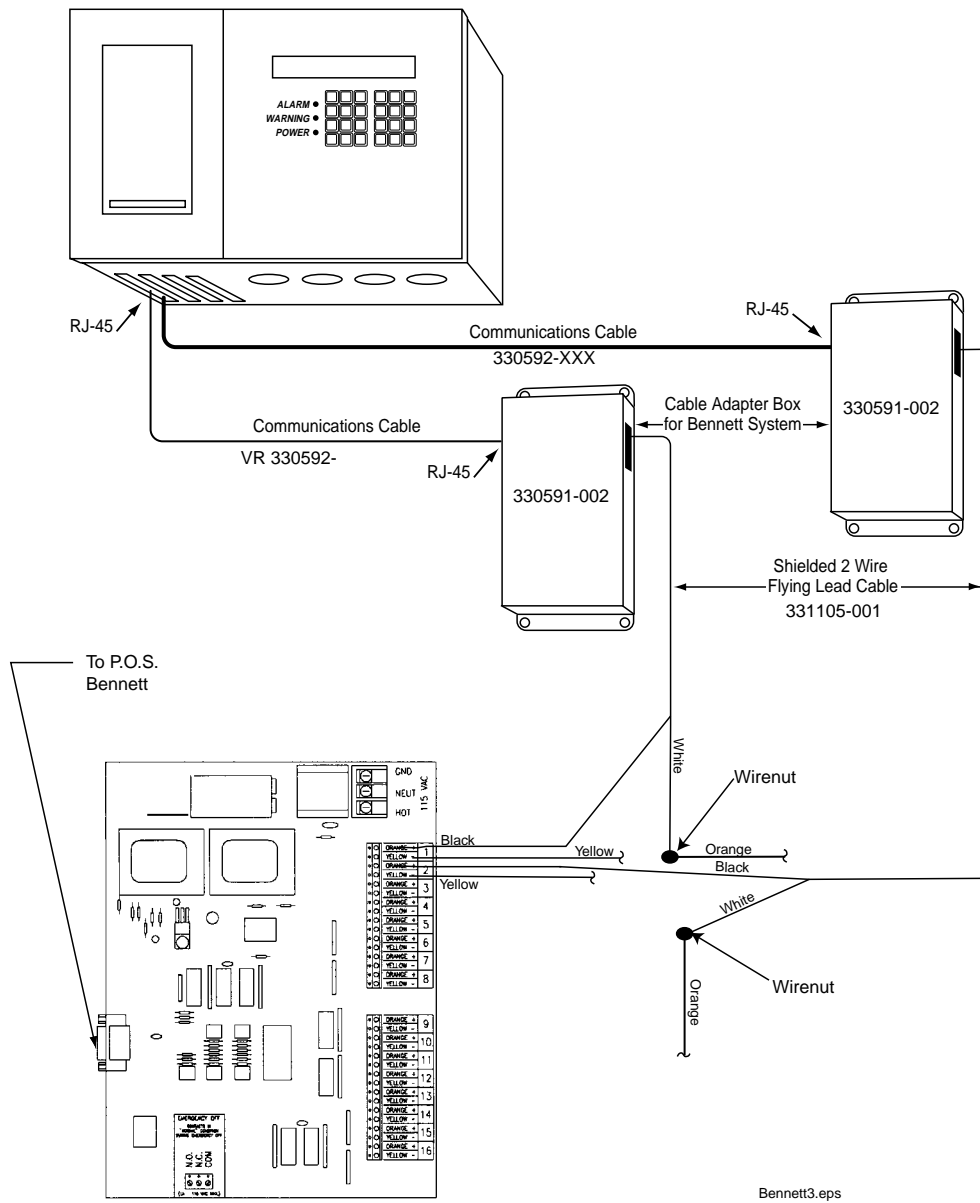

Figure 8. Example Bennett Pump Interconnect Box Model #405E
- Bennett Pump Interconnect Box Model 405E (see Figure 8).